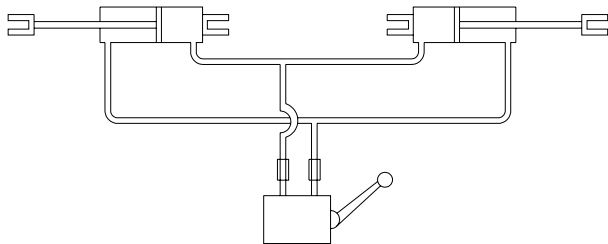

Fig. 3 Two Cylinder Wing Lift Circuit
Fig. 3 shows a simple two (2) cylinder circuit used to fold a pair of wings. This system is used on Wil-Rich Chisel Plows with a single pair of folding cylinders.